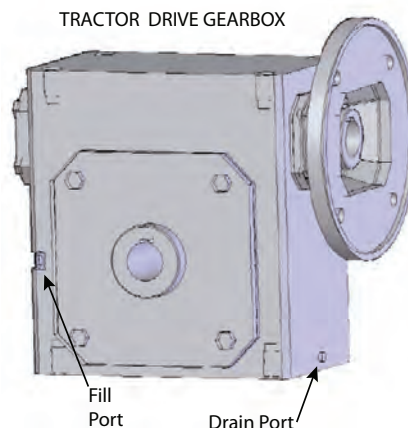
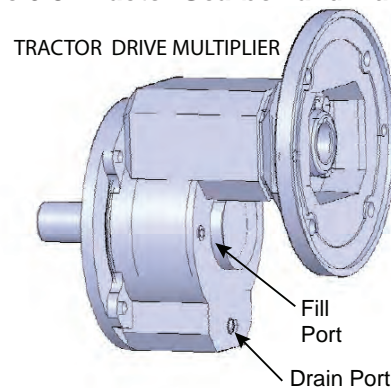

Figure 6-8: Tractor Gearbox and Multiplier
Figure: 6-9 Tractor Gearbox and Multiplier
1. Remove the Gearbox Fill Port Plug. See Figure 6-8.
2. Fill the Gearbox with Glygoyle 460 Oil until the oil level comes out of the fill port. See Figure 6-8.
3. Re-Install the Gearbox Fill Port Plug and firmly tighten in place. See Figure 6-8.
1. Remove the Multiplier Drain Port Plug. See Figures 6-9.
3. Re-Install the Drain Port Plug and firmly tighten in place. See Figure 6-9.
4. Fill the Multiplier with SHC630 synthetic oil per the instructions above to add oil to the gearbox. See Figures 6-9. Re-Install the Gearbox Fill Port Plug and firmly tighten in place. See Figure 6-8.